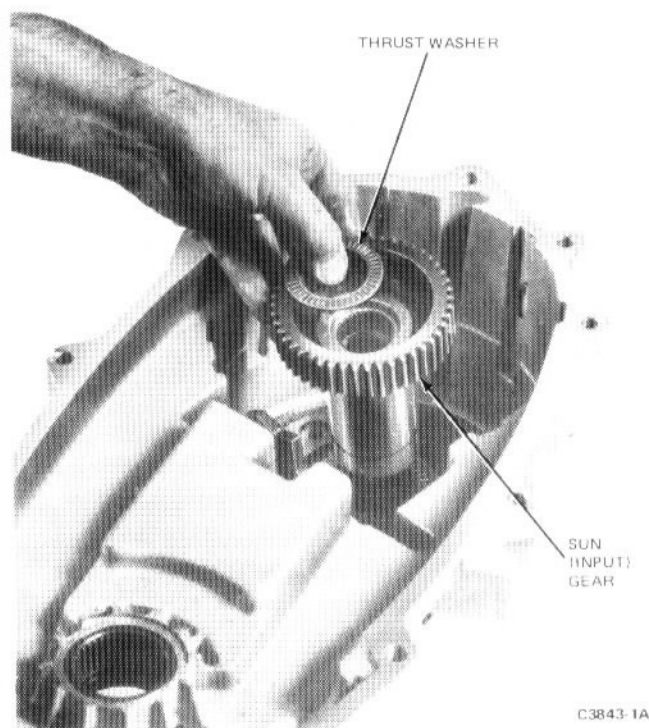

FIG. 17 Removing Sun Gear
17. Lift out the thrust bearing, sun (input) gear, another thrust bearing and thrust washer (Fig. 17).